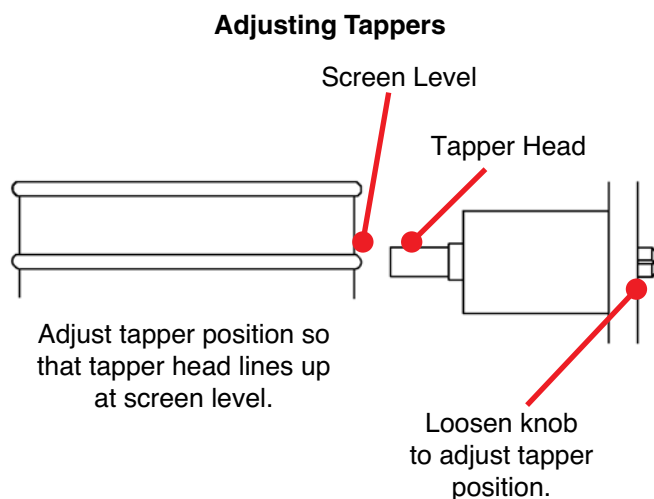

Figure 5.1
This row of buttons across the top of the control panel are numbered 1 through 7 and control individual pairs of horizontal tappers. See Figure 5.1 for information on position adjustment of the horizontal tappers.
- J. Referring to Figure 5.1 adjust the Horizontal Tappers to their proper positions.